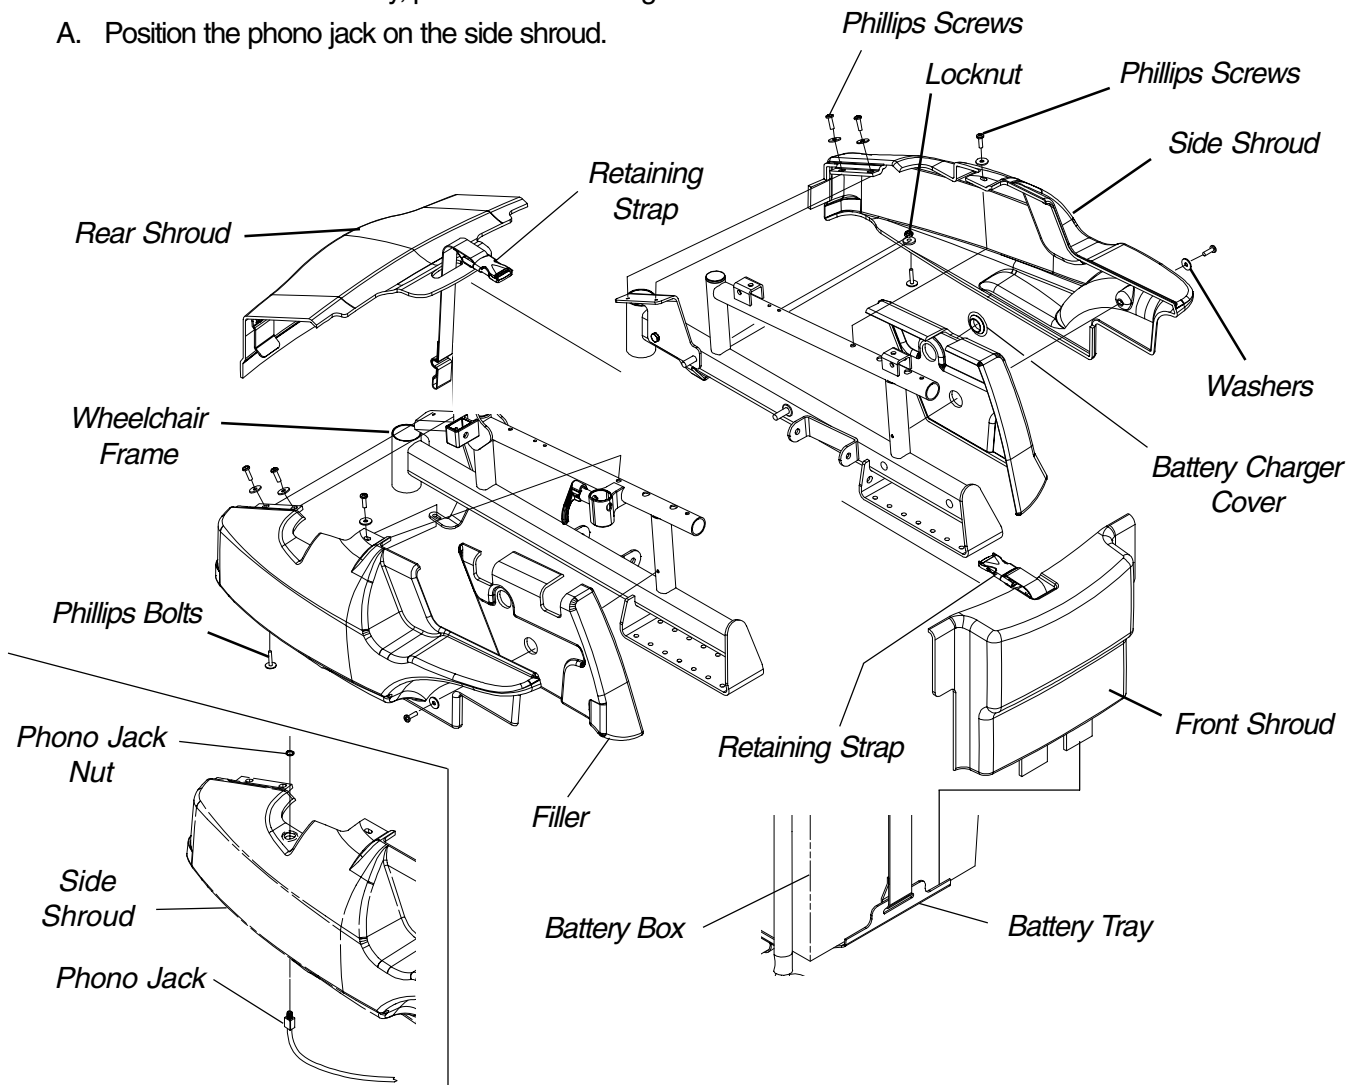

FIGURE 14 - REMOVING/INSTALLING SHROUDS - FWD WHEELCHAIRS
REMOVING/INSTALLING SHROUDS (FIGURE 14)
1. Feed the retaining strap through the front shroud as shown in FIGURE 14.
3. Press down on the rear shroud until the two (2) clips secure the rear shroud to the two (2) side shrouds.
3. Perform one (1) of the following:
5. Remove the phillips screws, bolts, washers and lock-nuts that secure side shroud and filler to the wheelchair frame. Refer to FIGURE 14 for phillips screw and washer locations.
3. Install the phillips screws, bolts, washers and locknuts that secure the side shroud and filler to the wheelchair frame and tighten securely. **DO NOT OVERTIGHTEN.** Refer to FIGURE 14 for phillips screw, bolt, washer and locknut locations.
6. Perform one (1) of the following: